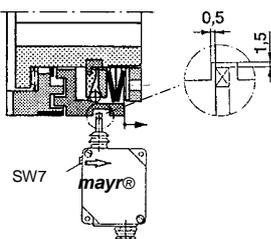
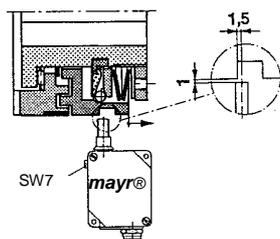
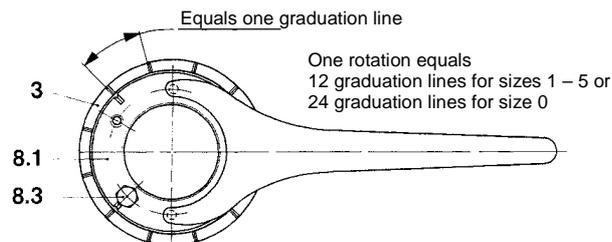

Fig. 7
Fig. 8
Fig. 10
The switching direction of the switching lever on the mechanical limit switch is to the **right** when facing the housing cover or the mayr[®]-logo (see Fig. 7).
- ❑ Set the switching distances for the mechanical and contactless limit switch acc. Fig. 7 or Fig. 8.
- ❑ The distance from the control element (3) (see Fig. 10) to the switching point can be finely adjusted using a hexagon head screw SW7 (Figs. 7 and 8).
Adjustment takes place by turning the adjusting nut. Turning it clockwise produces an increase in torque; turning it anti-clockwise produces a decrease in torque (facing the adjusting nut, as in Fig. 10).
2. Grease the threads and the contact surfaces of the adjusting nut (8.1), the lock washer (8.2) and the hub (1).
3. Adjust the adjusting nut (8.1) manually up to the cup spring contact (10).
4. Continue to turn until the 4 notches in the adjusting nut (8.1) and the notches in the control element (3) align (Fig. 10).
5. Continue to turn the adjusting nut (8.1) with a face wrench by the number of graduation lines equalling the required torque (Fig. 10). (Number of graduation lines shown in Adjustment Diagram).
6. Screw in the hexagon head screw (8.3) (the notches on the adjusting nut (8.1) and the control element (3) must be in the same position).
The overload torque on the clutch is set to e.g. 300 Nm. Now the overload torque must be increased to 350 Nm. If, in accordance with the Torque Adjustment Diagram, an overload torque of 300 Nm is achieved at 36 graduation lines, and 350 Nm is achieved at 46 graduation lines, the adjusting nut (8.1) must be re-adjusted by 10 graduation lines, turning clockwise. In order to do this, please remove the hexagon head screw (8.3) and adjust the graduation lines using a face wrench (Fig. 10). Finally, the hexagon head screw (8.3) is screwed in again, whereby the 4 notches in the adjusting nut (8.1) and the notches in the control element (3) must be in the same position.